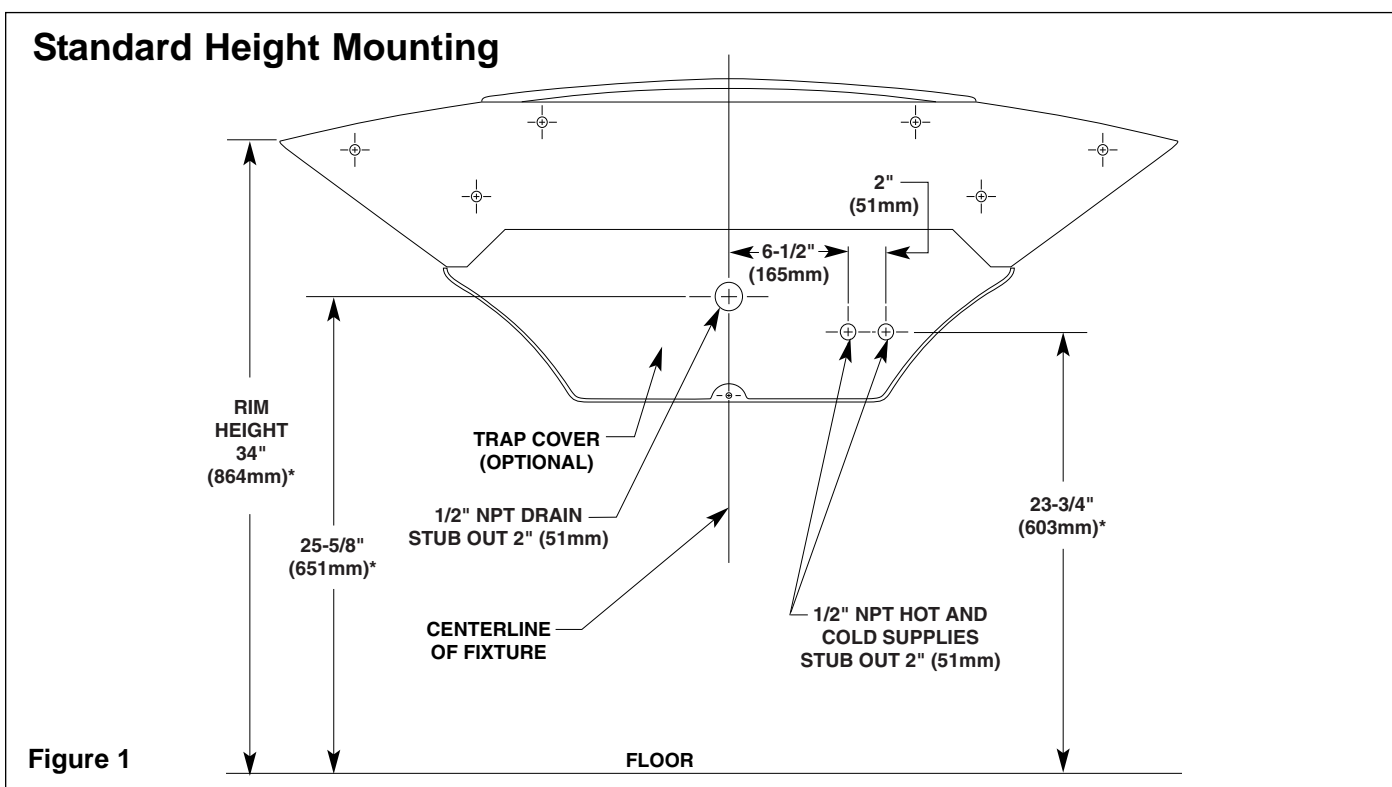
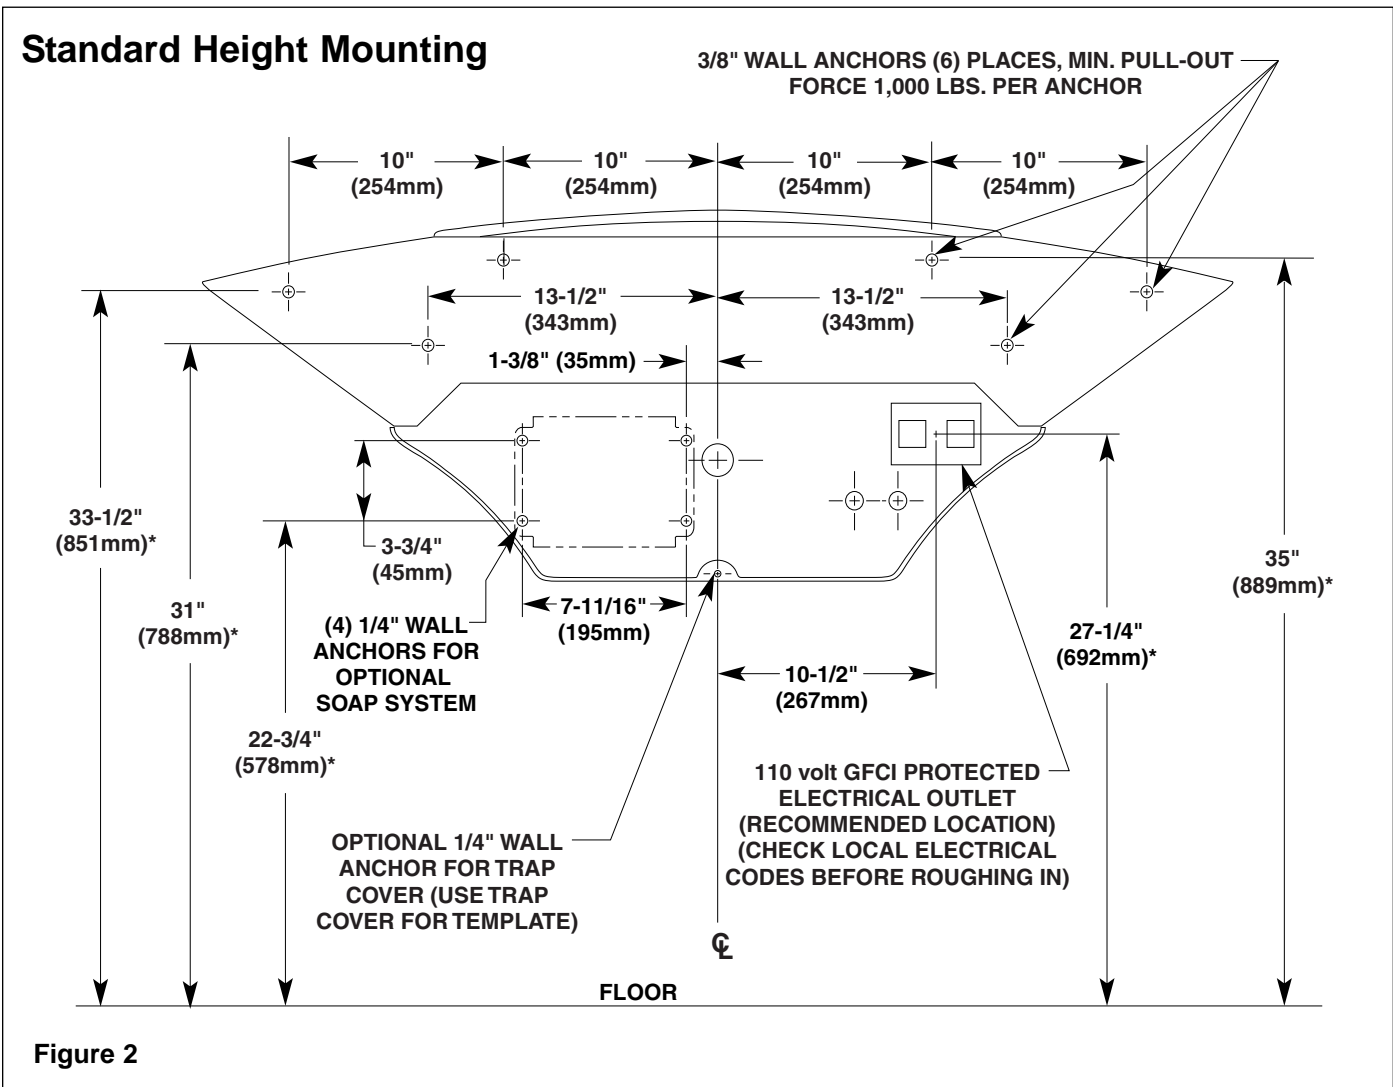

Figure 1
Figure 2
NOTE: Refer to Figure 1 below and Figure 2 on page 4 for Express® Crescent® Lavatory System rough-ins and dimensions.
1. Rough in 1/2" NPT hot and cold supply lines and 1-1/2" NPT drain waste connection through wall at dimensions shown in Figure 1.
2. Install a 110 volt GFI protected electrical outlet per local code at the location shown in Figure 2.
3. Install six 3/8" wall anchors with a minimum pull-out rating of 1,000 lbs. (supplied by installer) at the locations marked in Figure 2.
4. OPTIONAL TRAP COVER: Install one 1/4" wall anchor at the location marked in Figure 2.
3. Drill holes in the wall and install the six 3/8" wall anchors with a minimum pull-out rating of 1,000 lbs. (supplied by installer) at the locations shown in Figure 1 on page 3.
4. OPTIONAL TRAP COVER: Install the 1/4" wall anchor for the Trap Cover (supplied by installer) as shown on Figure 1. Use Trap Cover to locate.